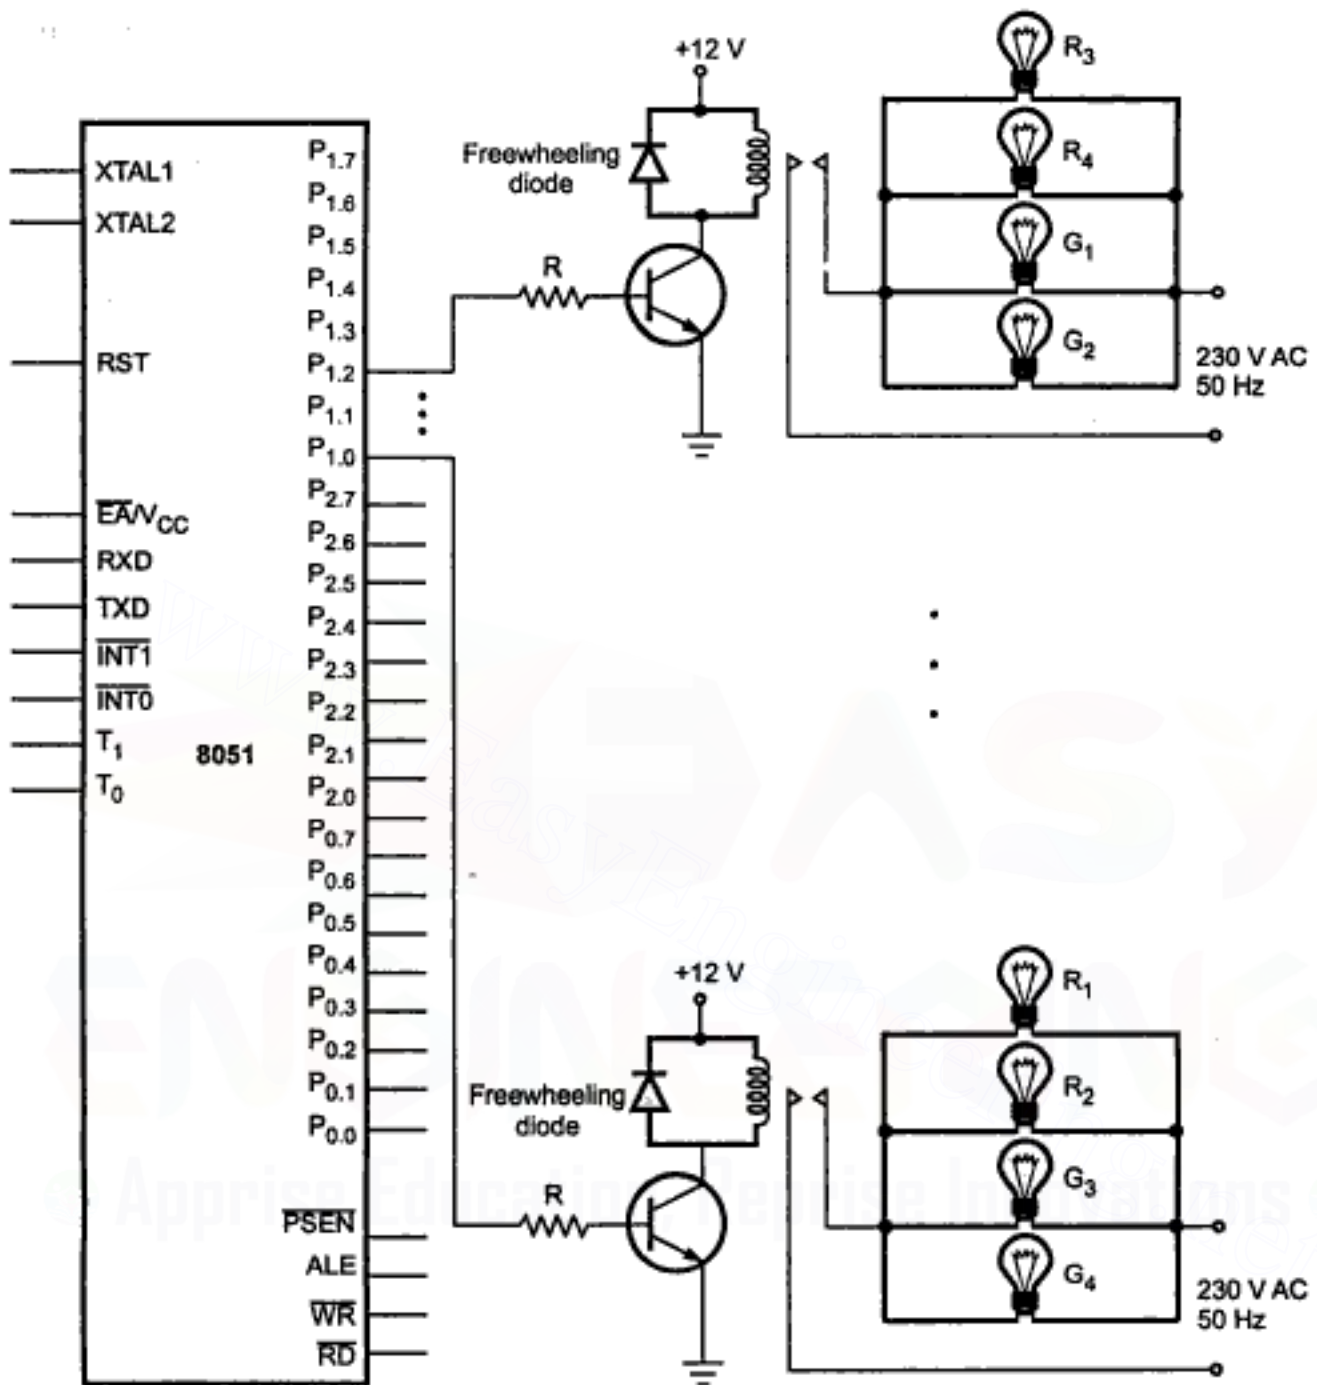

Fig. 13.53 Interfacing diagram for traffic light control system
**Hardware :** Fig. 13.53 shows the interfacing diagram to control 12 electric bulbs. Port 1 pins are used to control lights as shown in Table 13.14.